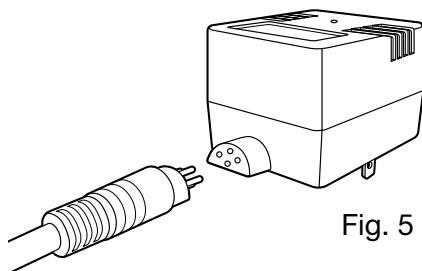

Fig. 5
5. Attach the ballast to the power cord. Use care to align the 4-pin plug properly. DO NOT FORCE. The power cord is designed to connect only one way (Fig. 5).